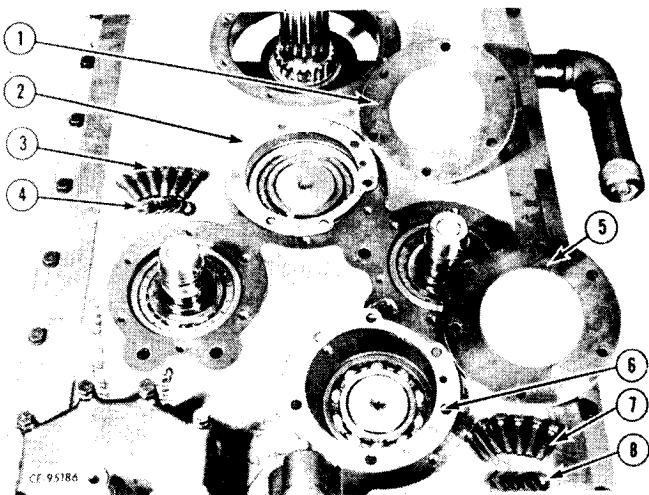

Figure 4-70
Install lower counter shaft cover (1, Fig. 4-70) with new gasket (2). Secure with cap screws (3) and lock washers (4). Install main idler shaft cover (5) with new gasket (6) and secure with